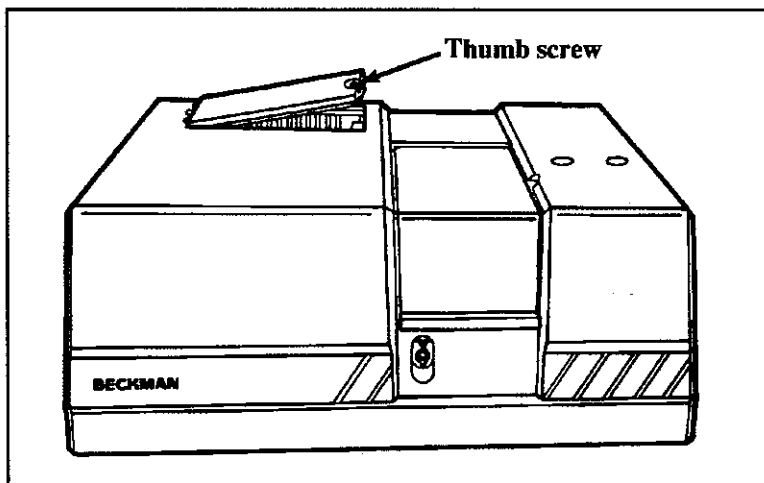

Figure 12-3.
2. Remove the display from the top of the instrument cover. Unscrew the thumb screw which secures the source cover. Open the source cover and remove it. See Figure 12-3.